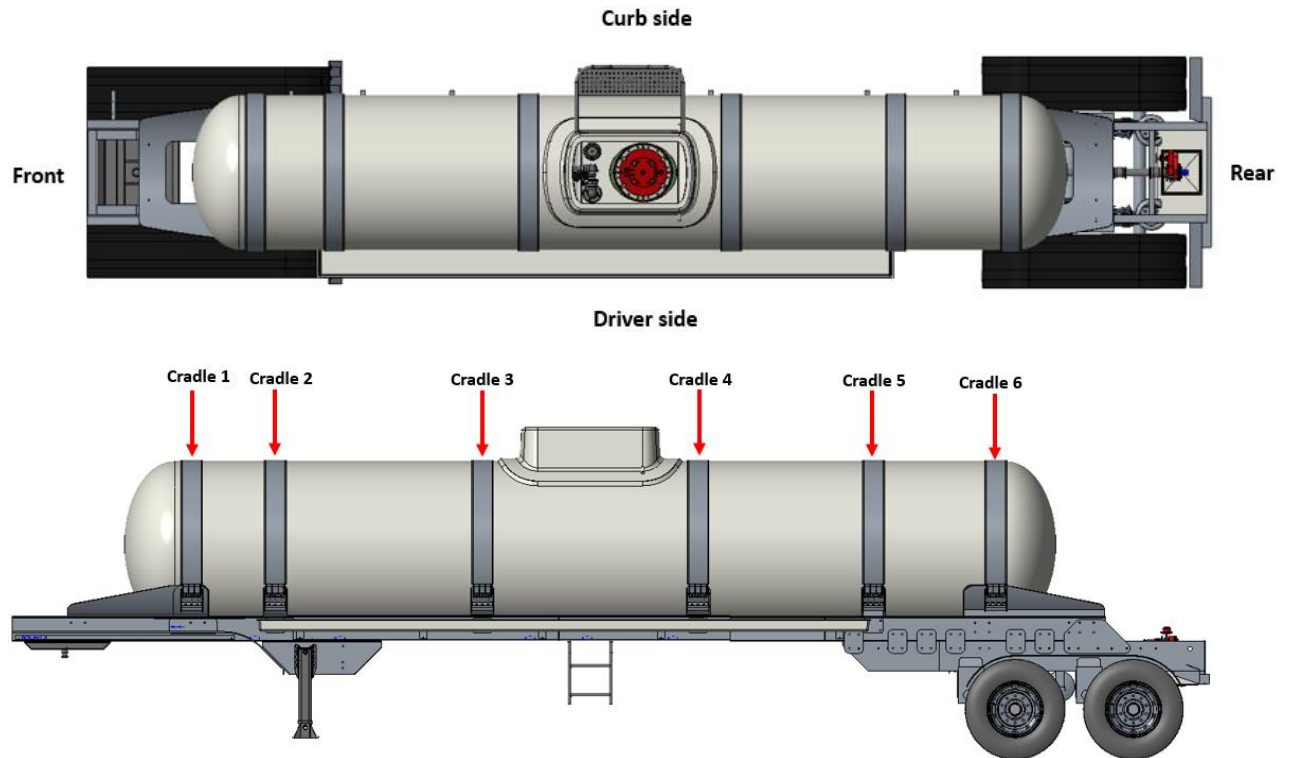

Figure 2: Driver side vs Curb side of Barrel Support Frame, Strap Numbering
2. Loosen the fasteners on strap 1 only on both the **driver side** and **curb side** of the barrel support frame. Leave the fasteners on other straps tightened. Refer to Figure 2.